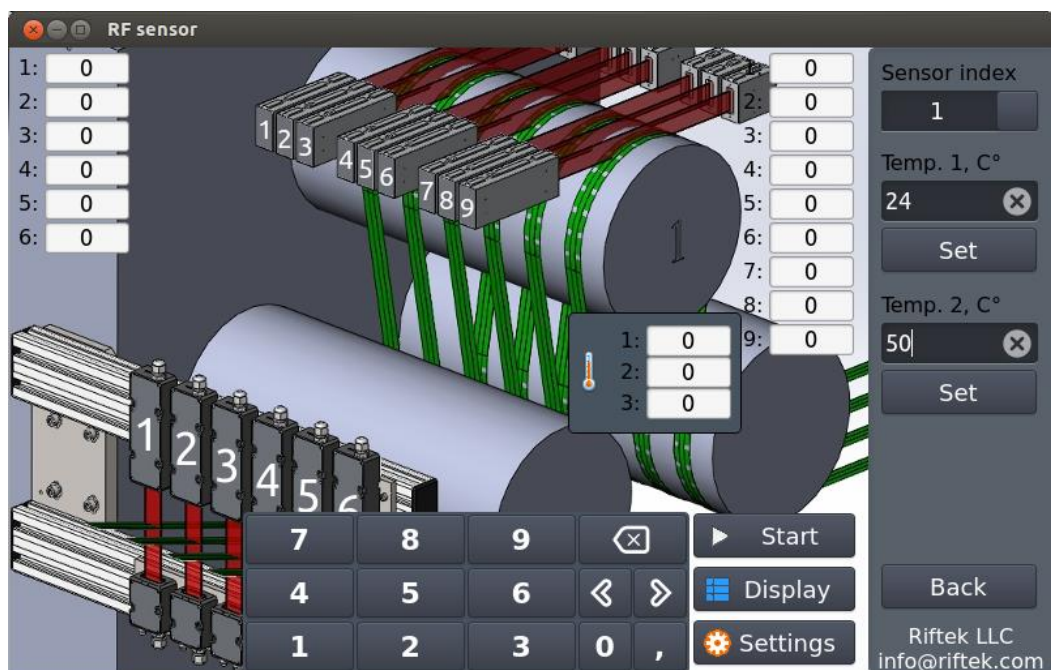

Figure 12
- open the calibration menu **Settings > Calibration** (Fig. 12)